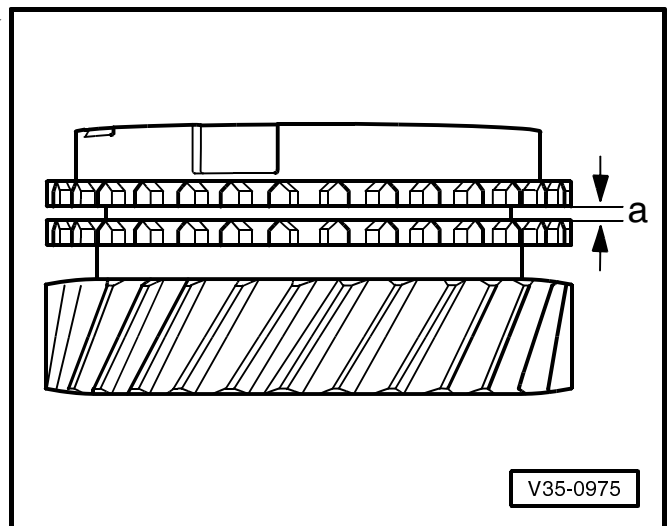

Fig. 9: Pull out the cylindrical-roller bearing from the clutch housing ▶
- removing ⇒ Fig. 9 in **35-2** page 6